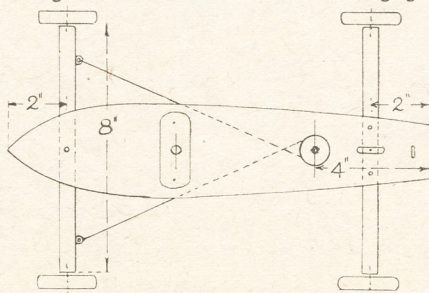

Fig. 4—Plan of deck, wheels, axles, etc.
As a substantial base for the mast, cut out a piece of  $\frac{1}{2}$ in. wood to the shape shown at (A) on plan Fig. 4. This should measure 2 $\frac{1}{2}$ ins. long by 1in. wide and a  $\frac{1}{2}$ in. diameter hole must be made in it for the mast which, as will be noted, runs down through the hole made in the deck. Nail the piece to the deck with two 1in. long wire nails.
The axles are identical in length, and cut from  $\frac{1}{2}$ in. thick wood  $\frac{1}{2}$ in. wide. The front axle will be pivoted by running a round-head screw up loosely through the deck and into the axle. The back axle will be fixed to the stern of the yacht by means of wire nails and glue. Insert two brass or copper screw-eyes into the side of the front axle, as shown in Fig. 4, for the attachment of the steering cord.